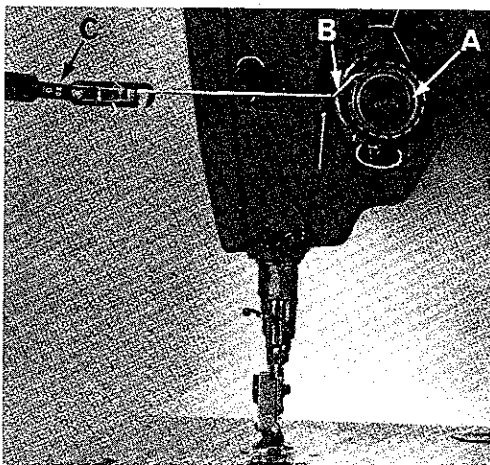

Fig. 19A
Check the adjustment of tension assembly (A, Fig. 19A). Check spring tension. There should be enough tension to insure a good returning snap when spring (B) is depressed and released. The check spring tension is adjusted from about 1/2 to 1 ounce when measured with a postal scale (C). This is measured when the check spring is 1/32 to 1/16 inch from its stop. The tension post set screw should be drawn up snugly but not forcefully tightened. The tension release pin should move freely in the tension post.